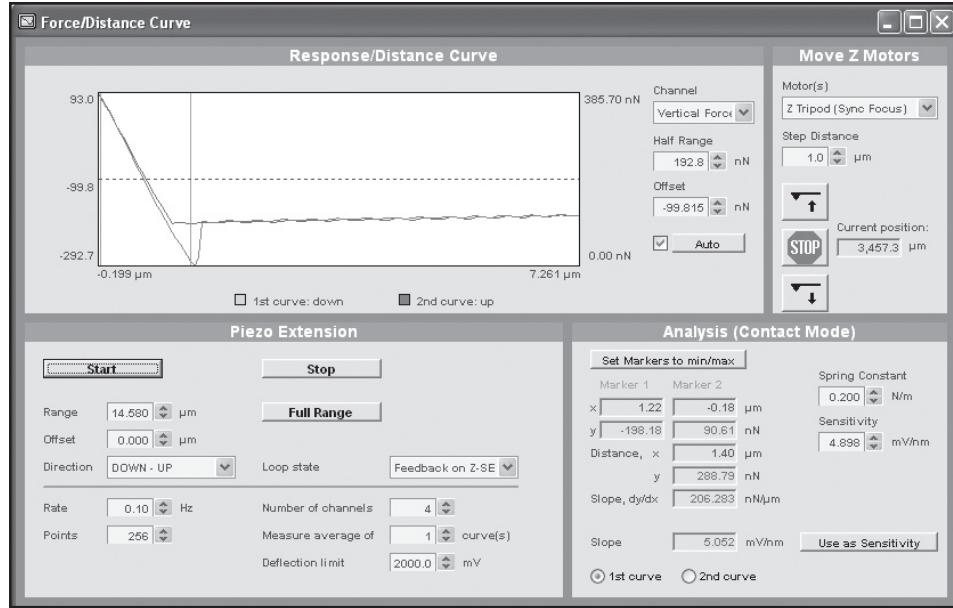

Figure 6.13: Typical Force Distance Curve
8. Observe response data plotted against Z Sensor (Figure 6.13).